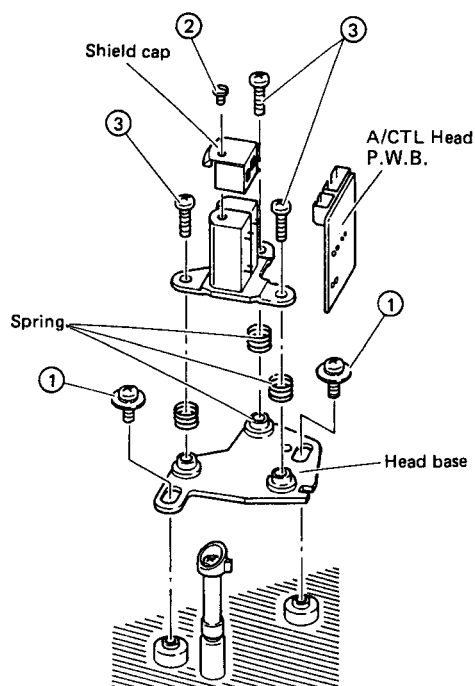

Fig. 1-5-4 Replacement of A/CTL head
1. Disconnect connectors CN1 and CN2 from the A/CTL HEAD board. (See Fig. 1-5-4)
2. Take out screws ① and remove the audio/control head with the head base.